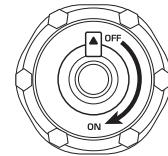

Fig. 4
3. Open the vent on the fuel cap to the "ON" position (fig. 4).